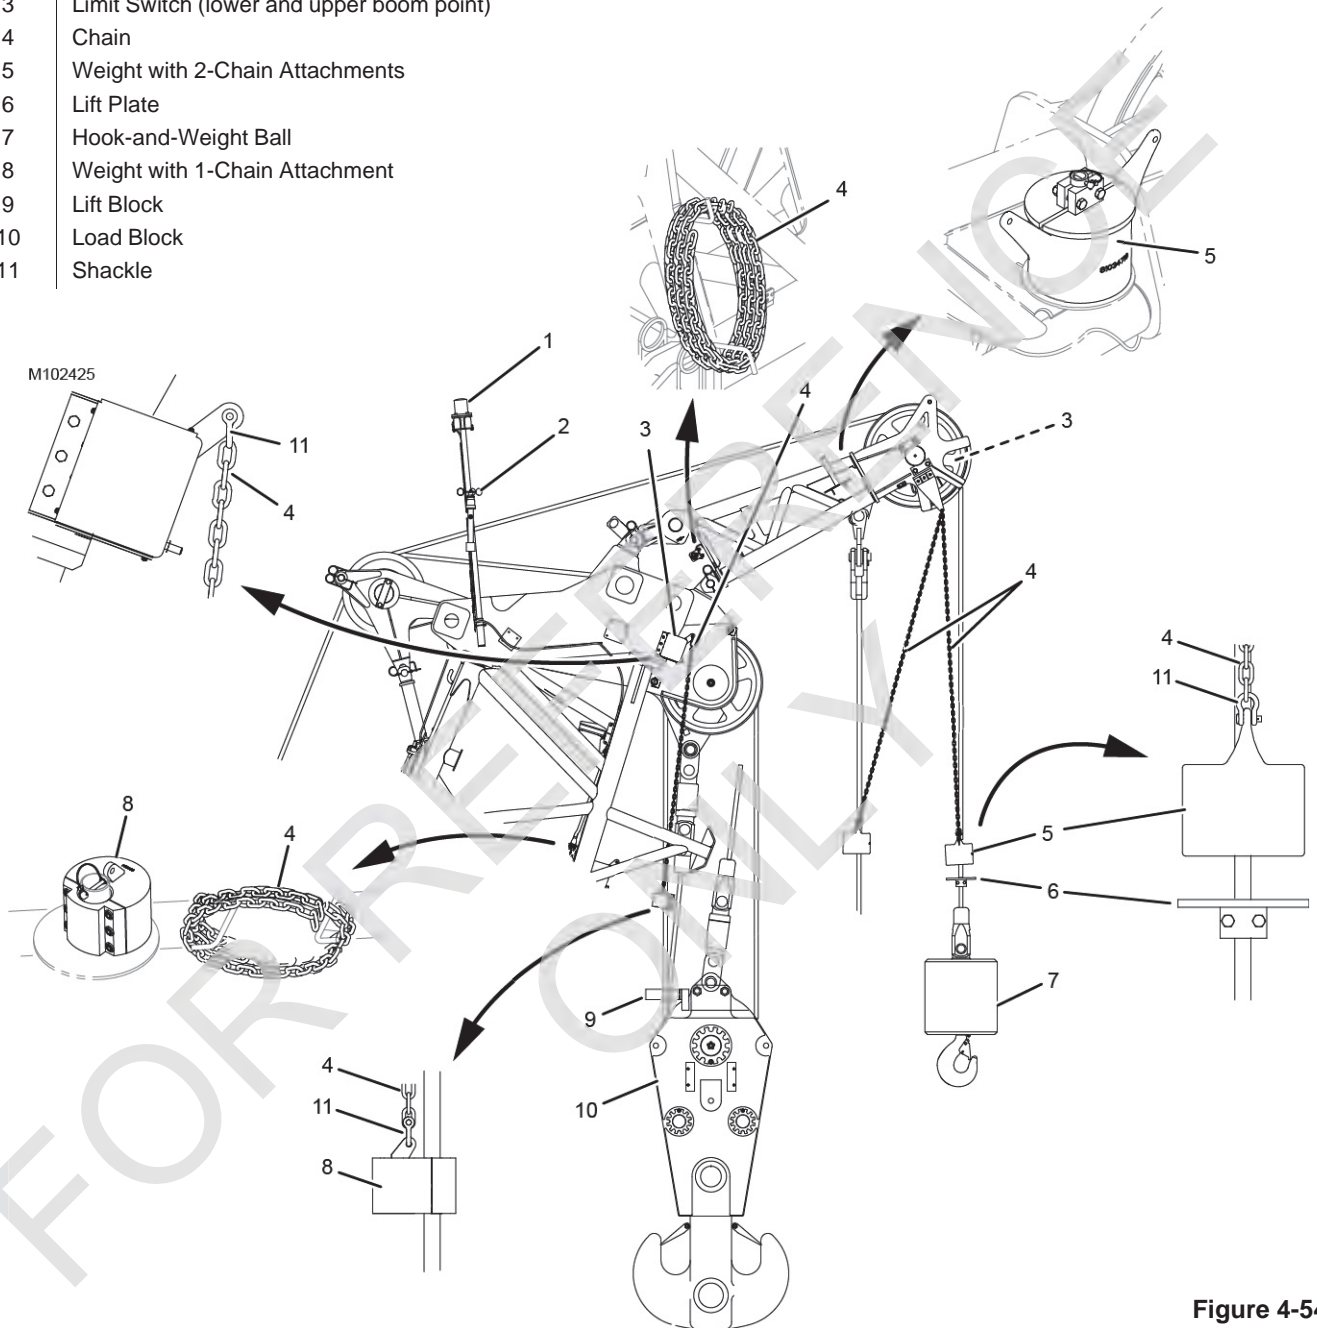

Figure 4-54
- ❑ Block-up limit control (Figure 4-54) is properly installed, operational, and adjusted.
- ❑ Position indicator light (Figure 4-54) is properly installed and operational.
- ❑ Wind speed indicator (Figure 4-54) is properly installed and operational.